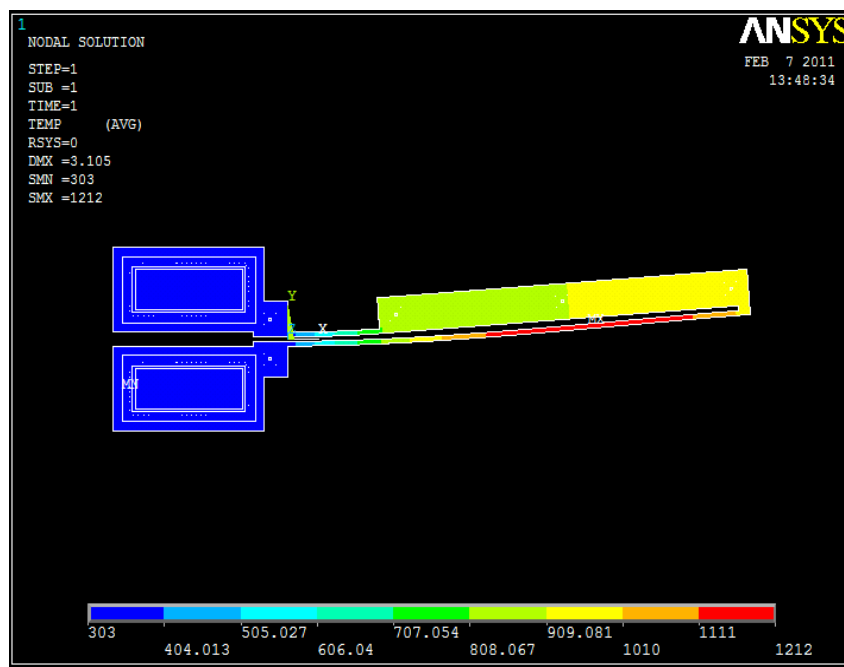

Figure 167: Plotting Temperature Results.
- ☑ Temperature Profile is displayed, as shown in (Figure 167).